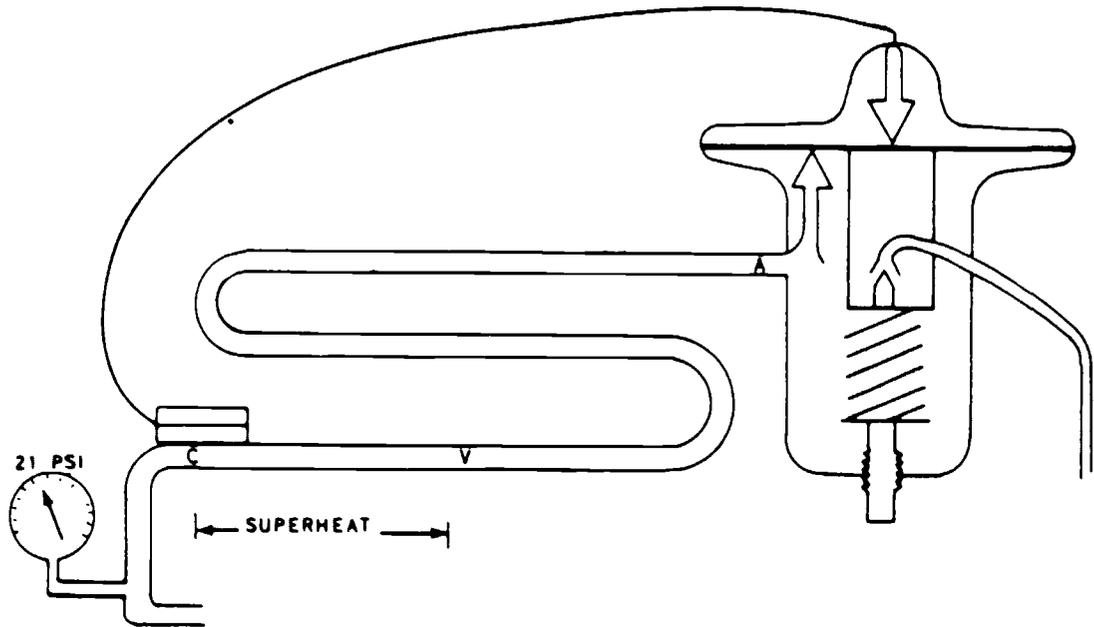

Figure 14. Normal Operating System with R-12 Refrigerant
To understand the operation of the thermostatic expansion valve, refer to Figure 14, Normal Operating System. Both the system and valve will contain R-12 for this exercise. Vary the heat load and observe superheat and pressures  $P_1$ ,  $P_2$ , and  $P_3$ .
Point V is the point of complete vaporization. The temperature of the liquid and vapor from V to A is the same. Knowing where point V is located is not too important, but the temperature at point V is. The temperature at point V can be known by converting suction pressure to temperature. In Figure 14, suction pressure is 21 PSI. The temperature from A to V is 20° F.
**INCREASE IN HEAT LOAD.** Referring to Figure 14, normal refrigeration system pressure P1 is in balance with P2 + P3. Normal superheat is 10° F